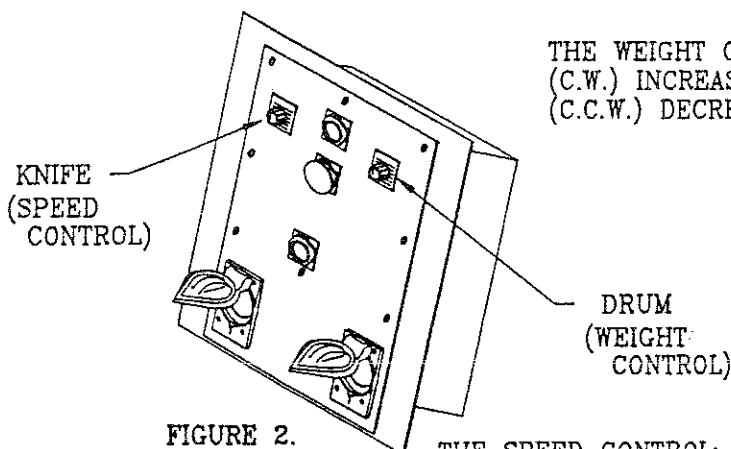

FIGURE 2.
1. SET WEIGHT AND SPEED CONTROLS TO 50% (SEE FIGURE 2).
THE WEIGHT CONTROL: TURNING THIS SWITCH CLOCKWISE (C.W.) INCREASES WEIGHT; TURNING IT COUNTER-CLOCKWISE (C.C.W.) DECREASES THE WEIGHT. SEE FIGURE 2.
THE SPEED CONTROL: TURNING THIS SWITCH CLOCKWISE (C.W.) INCREASES PRODUCTION RATE; TURNING IT COUNTER-CLOCKWISE (C.C.W.) DECREASES PRODUCTION RATE. SEE FIGURE 2.